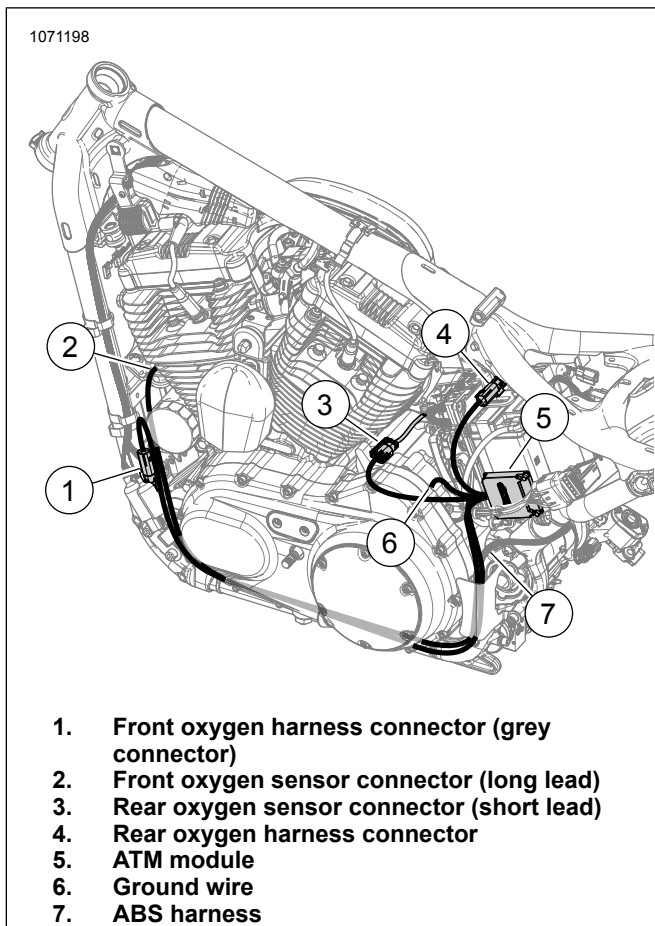

Figure 50. ATM Harness Routing (place holder)
12. See Figure 50. Install ATM module (5).
See Figure 50. Route and connect ATM ground wire (6) to **clean** ground post. Tighten to: